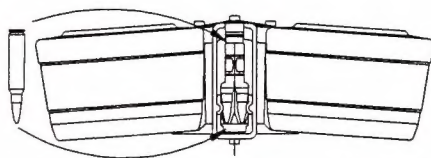

Figure 1.8
RELOAD feed clip with spacer rounds (Part No. SCM131). Individually drop 14 of the required 15 rounds into the feed clip (Figure 1.8); save one (1) round to insert with last round link assembly (Part No. ACM012). Spacer rounds are an integral part of the C-MAG, necessary for proper operation of the magazine. Orient the spacer rounds in the direction of the pusher rounds which are visible when looking into the empty feed clip (Figure 1.8). Only continue if both pusher rounds are visible.